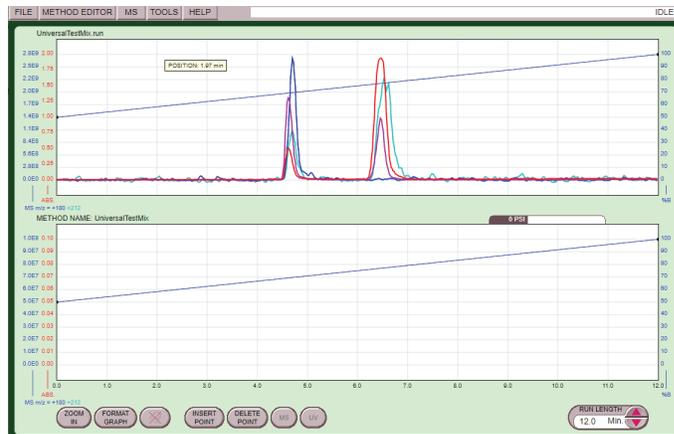
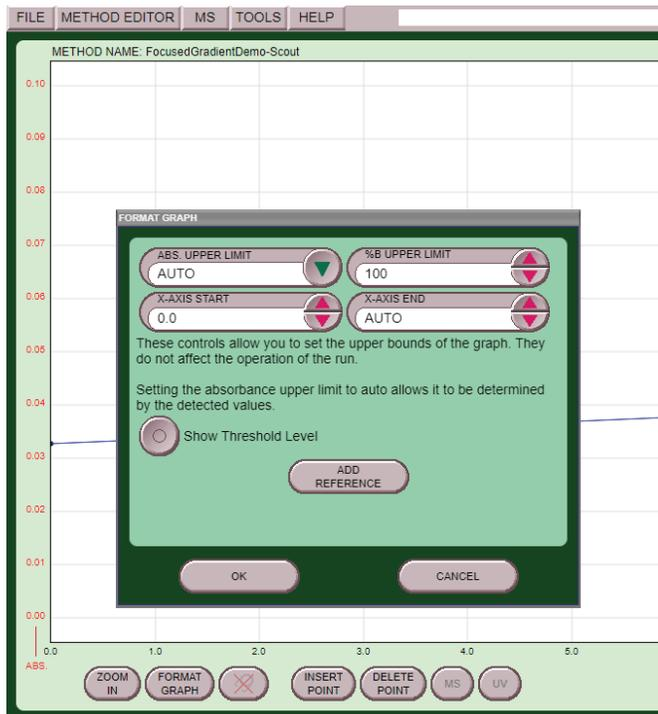

Figure 10: Run Screen with reference chromatogram
Figure 9: Format Graph screen to add a reference chromatogram
6. During the separation you can add the previous run information to the screen by selecting FORMAT GRAPH below the chromatogram window (Figure 9). Select ADD REFERENCE and choose the previous run from the file window, then select open. The previous run will be displayed above the current run for comparison (Figure 10). (Only available on systems running PeakTrak version 4.2.40 and newer.)